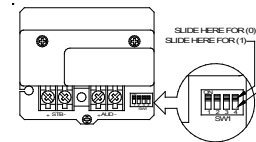
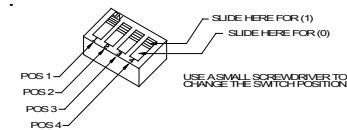

Figure 3: PCB Board Layout Showing Location Switch (SW1)
Figure 4: Switch Settings
The Switch (SW1) of the Multitone Appliance, shown in Figure 3, is used to set the dBA sound output level and alarm tone. The factory settings are shown below. Read these instructions carefully before changing any of these factory settings.
**STEP 1:** Set the desired dBA sound output level as follows (Refer to Table 5). Multitone Strobe Appliances cannot be field set for input voltage. Multitone Strobe Appliances are field set for dBA sound output level by adjusting a four position Switch (SW1) as shown in Table 5 and Figure 3. Use SW1 Position 1 to select the dBA sound output level.
**STEP 2:** Set desired alarm tone as follows (refer to Figure 3 and Table 6). Multitone Strobe Appliances are field set for any one of eight alarm tones by setting a four-position switch (SW1) as shown in Figure 4 and Table 6. Use SW1 POS 2, 3, 4 to select the desired alarm tone.